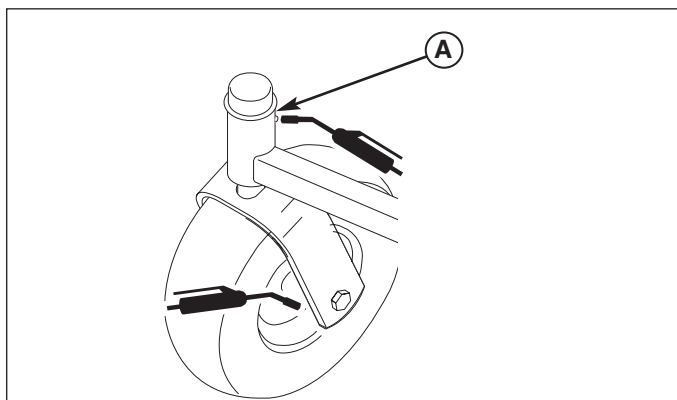

Figure 31. Front Caster & Wheel
**NOTE:** For greasing the front casters, the grease fitting plug (A, Figure 31) must be removed and a grease fitting installed. After greasing, the grease fitting will need to be removed and the grease fitting plug reinstalled.